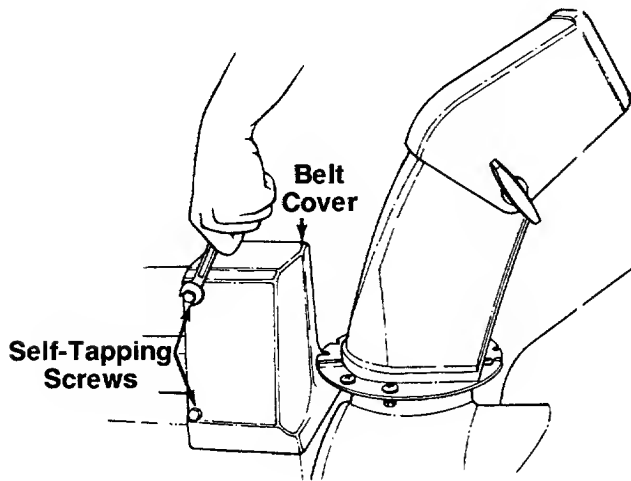

FIGURE 26.
1. Remove the belt cover, which is held in place with four self-tapping screws. See figure 26.
3. Remove the plastic belt cover on the front of the engine by removing four self-tapping screws. Refer to figure 26. A 1/2" wrench is required.